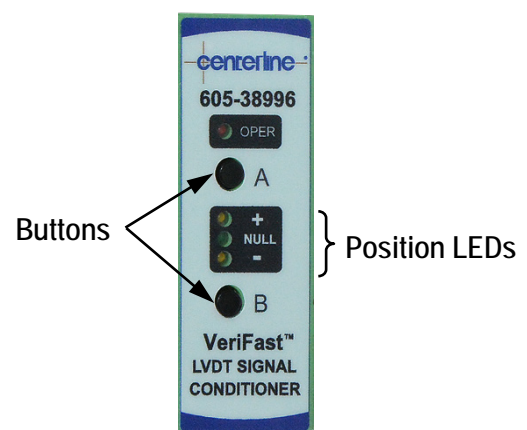

Figure 8 – LVDT Sensor Display and Operating Elements
Calibration mode can be cancelled at any time by pressing the buttons 'A' and 'B' (see Figure 8 below) simultaneously for 3 seconds.
2. After system power-up, three (3) minutes of warm up time is recommended.
3. Enter the Calibration Mode by pressing both the 'A' and 'B' buttons (see Figure 8) until the OPER LED will begin blinking (3 seconds minimum).
Calibration mode can be cancelled at any time by pressing the buttons 'A' and 'B' (see Figure 8 above) simultaneously for 3 seconds.
2. Ensure that the unit is warmed up for at least three (3) minutes (see step 2 in the previous section).